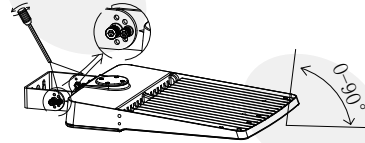

Figure 4-4
Step4: If the installation angle of the fixture needs to be adjusted, loosen the screws of the bracket and fix them again after finished adjustment, Figure 4-4;